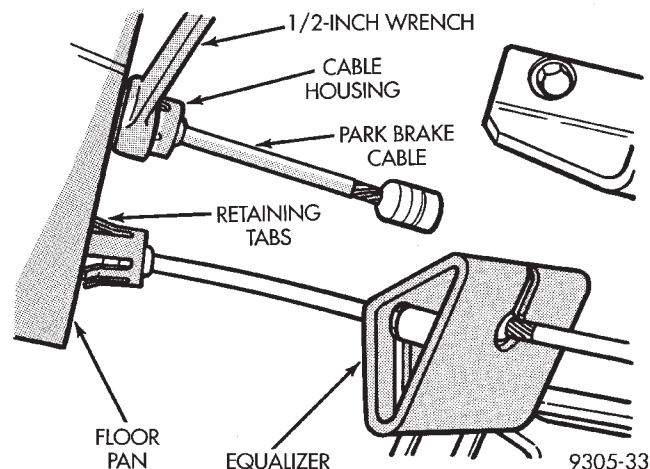

Fig. 124 Park Brake Cable Removal From Floor Pan
(13) Remove rear park brake cable from vehicle floor pan using the following procedure. Disconnect rear park brake cable requiring replacement from equalizer (Fig. 124). Slip the box end of a 1/2 inch over end of park brake cable (Fig. 124). This will compress retaining tabs on end of park brake cable housing. Using a screw driver, press on end of park brake cable housing to remove cable from floor pan of vehicle.